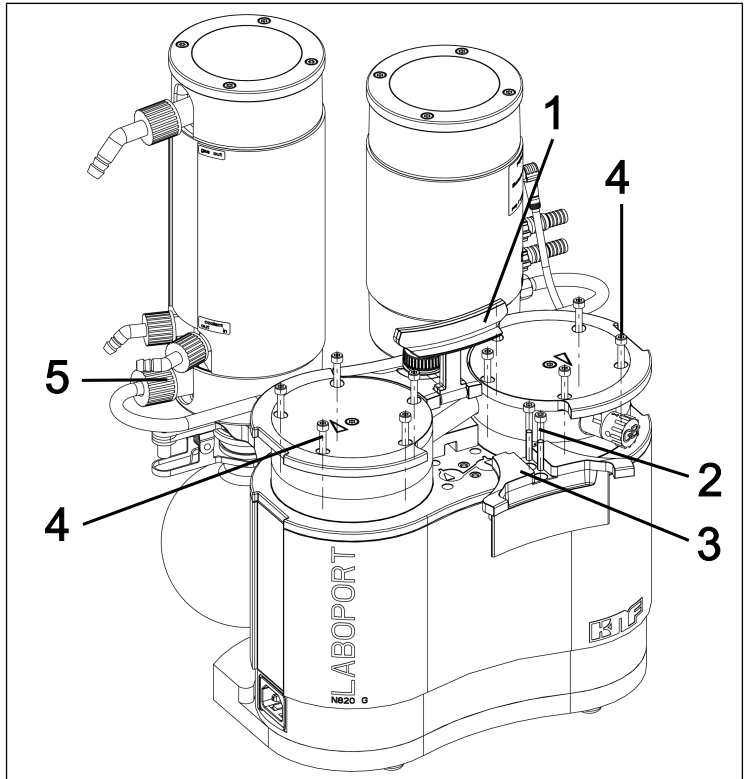

Fig.25: Remove handle cover
4. Remove the union nut of the hose connection (**5**/Fig. 25) from the vacuum system components.
5. Set the handle (**1**/Fig. 25) to a vertical position.
6. Loosen the two screws (**2**/Fig. 25) of the handle cover (**3**/Fig. 25).
7. Remove the handle cover (**3**/Fig. 25).
8. Loosen the 10 external head screws (**4**/Fig. 25) on both pump heads.
9. Remove the 10 external head screws (4/ Fig. 25) from both pump heads.
1. Mark the pressure plate (2), head plate (3) and intermediate plate (6) with a continuous pencil stroke. This prevents the parts from being incorrectly mounted later on.
2. Remove the external screws (4/Fig. 25) of the pump heads.
9. Insert the 10 external screws (**4**/Fig. 25) in the pump head and tighten them in a crosswise pattern (tightening torque: SC820G: 4 Nm; SC840G: 5 Nm)
- i** If the external screws (**4**/Fig. 25) cannot be inserted into the pump head, loosen the internal head screw (**1**) and check the seating of the head plate (**3**) on the intermediate plate (**6**).
11. Hand-tighten the union nut of the hose connection (**5**/Fig. 25) on the high-performance condenser (**2**/Fig. 3).
1. Mount the handle cover (**3**/Fig. 25).
2. Tighten the screws (**2**/Fig. 25) of the handle cover (**3**/Fig. 25) (tightening torque: 2 Nm).